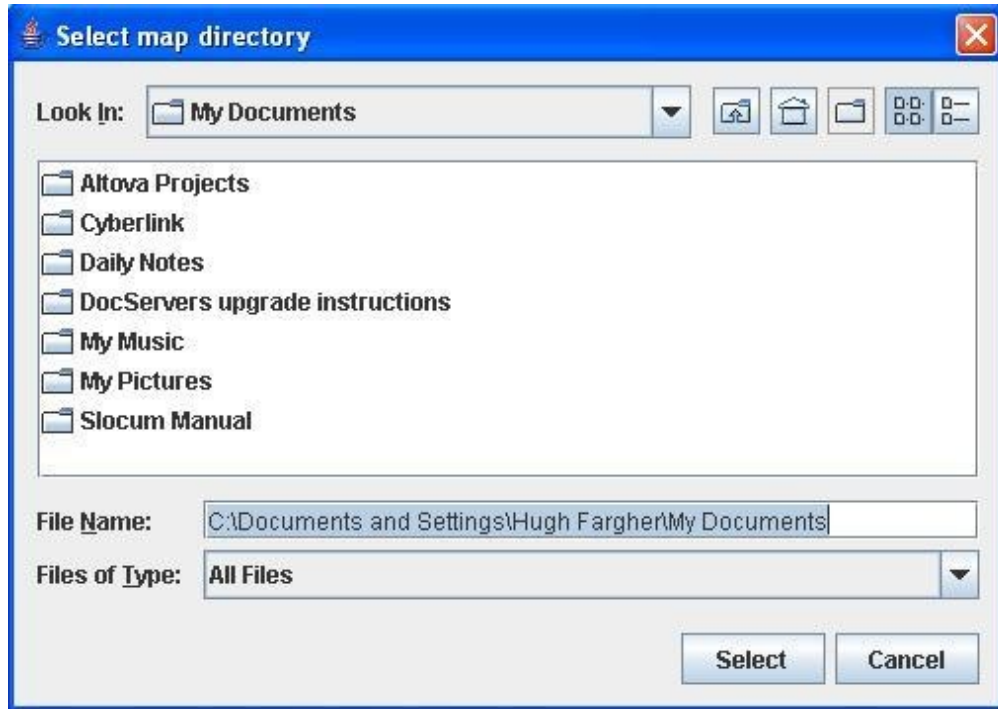

Figure 6-7. Local File System Map Selection dialog.
1. Select Maps/Load map from.../Local file system, from the Glmpc Terminal's menu bar. A Select map directory dialog (similar to that shown in Figure 6-7) will appear.
1. Select Maps/Create Map from the Glmpc Terminal's menu bar. A Select image file dialog (similar to that shown in Figure 6-7) will appear.